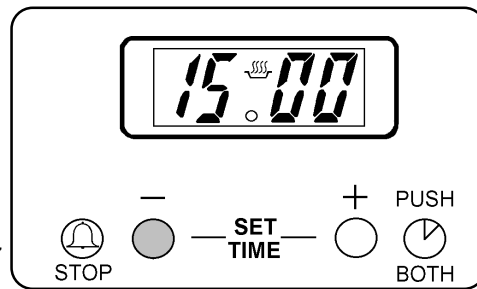

Fig.7
To stop the sound, press button (1). The display will stop flashing and show the time of day, e.g. 15:00. The cooking symbol (  ) will go out. See Fig.7.